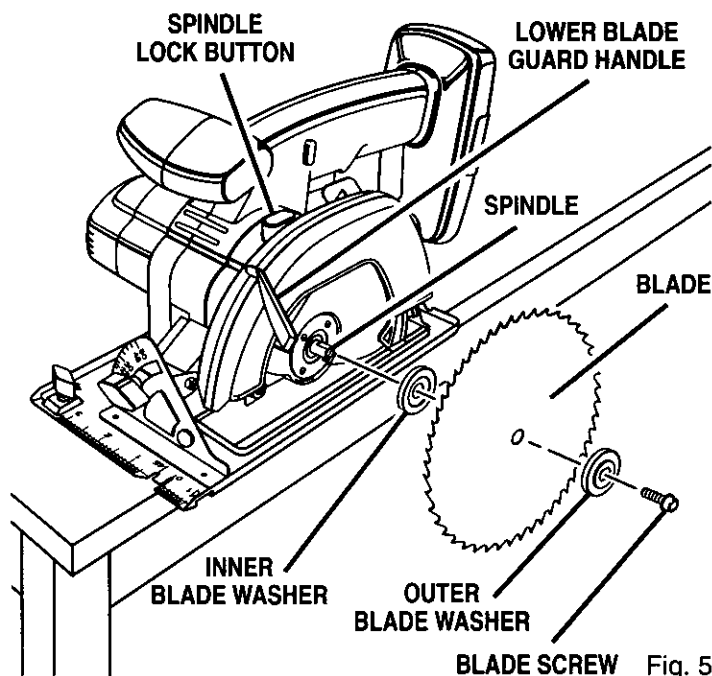

Fig. 5
See Figure 5.
- Depress spindle lock button and remove blade screw and outer blade washer. See Figure 5.
**Note:** The saw teeth point upward at the front of saw as shown in figure 5.
- Remove outer blade washer. See Figure 5.